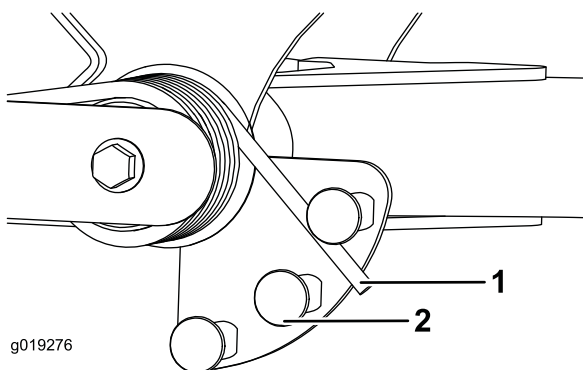

Figure 53
2. Insert a tube or similar object onto the long spring end and pivot it around the spring actuator to the desired position (Figure 53).